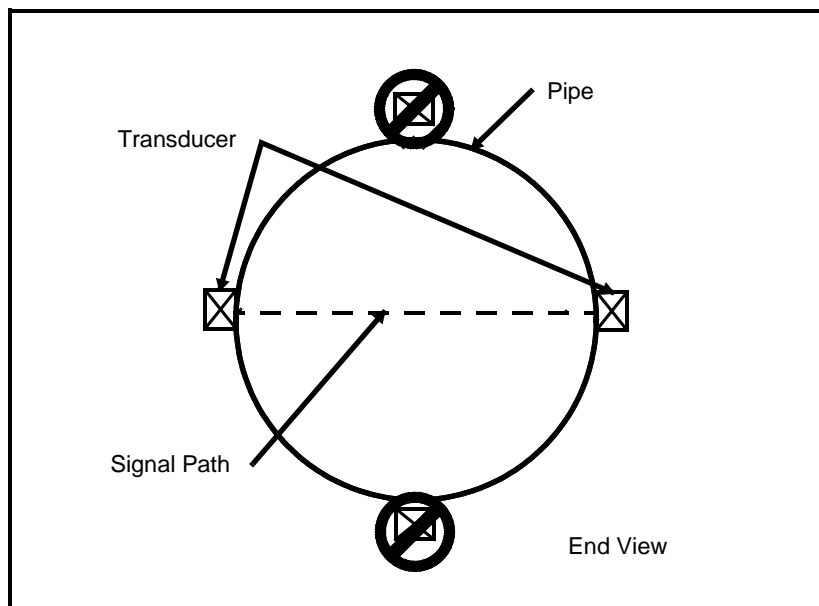

Figure 1-2: Transducer Placement
- Place the transducers as close as possible to the horizontal plane. (see Figure 1-2 below). Locate the transducers on opposite sides of the pipe 180° apart, ideally at the 3 and 9 o'clock positions. **Do not place transducers on the top or bottom of the pipe.**